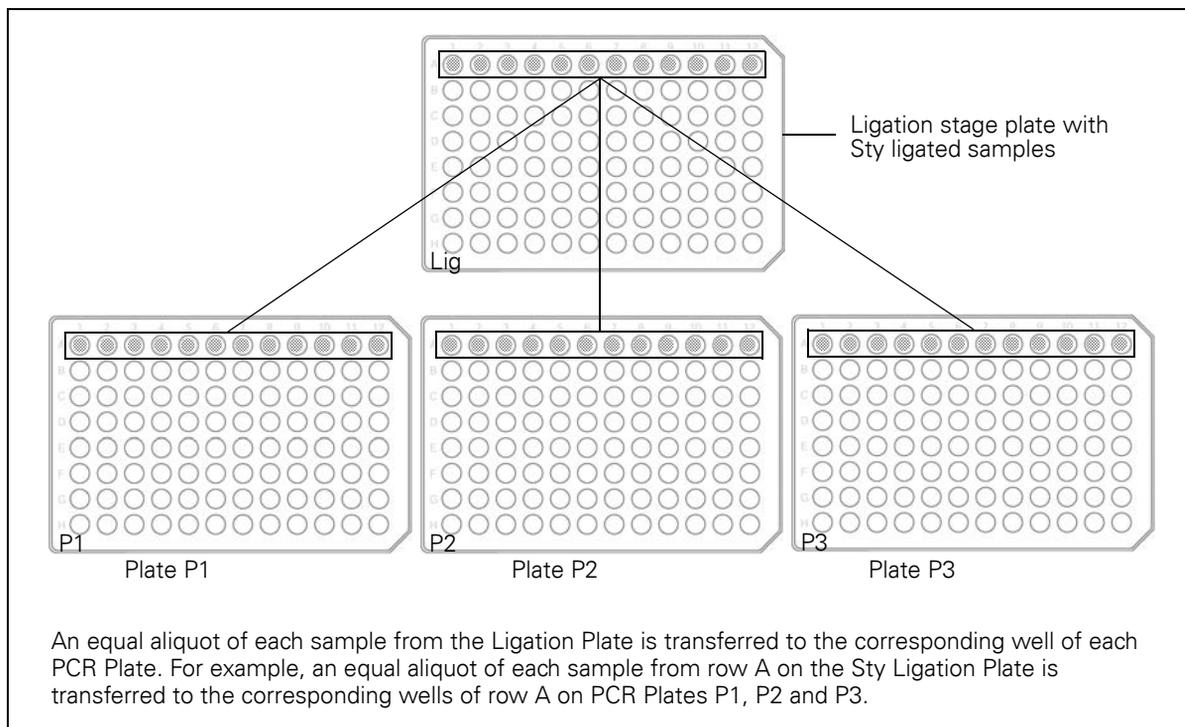

Figure 5.4 Transferring Equal Aliquots of Diluted, Ligated Sty Samples to Three Reaction Plates
- Three 96-well reaction plates labeled *P1*, *P2*, *P3* (see Figure 5.4 on page 166)
Example (Figure 5.4): Transfer 10 μ L of each sample from Row A of the Sty Ligation Stage Plate to the corresponding wells of row A on the plates labeled P1, P2, and P3.